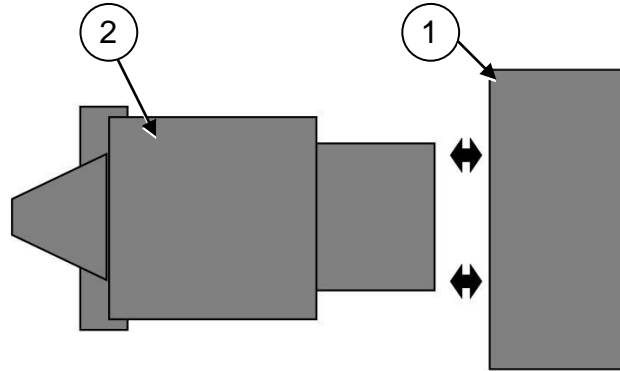

FIG. 6.1
Ensure that the Bale Accumulator ((1)-Fig. 6.1), is mounted squarely to the rear of the baler (2), as shown. Begin installation procedures with Bale Accumulator set on a firm, level surface behind the baler. The deck should be evenly spaced behind the baler.